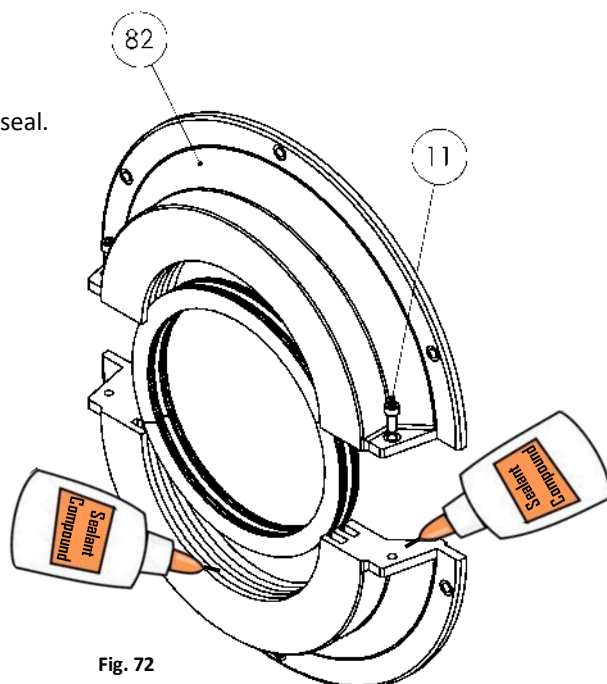

Fig. 72
- Apply sealant compound to the split surfaces in the special machine seal (82) (Fig. 72).